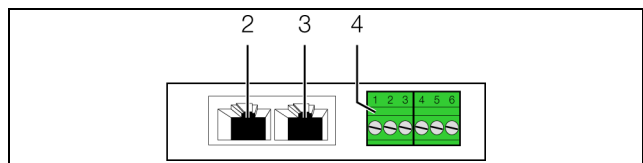

Fig. 10: Rear of the universal sensor
- Connect an external device to the universal interface as per the following descriptions (fig. 10, item 4).
- Use a CAN bus connection cable to connect the universal sensor to a CAN bus interface on the CMC III Processing Unit or the neighbouring component on the CAN bus (fig. 10, item 2).
- If necessary, connect another component (e.g. another sensor type) to the second, free CAN bus interface of the universal sensor (fig. 10, item 3).